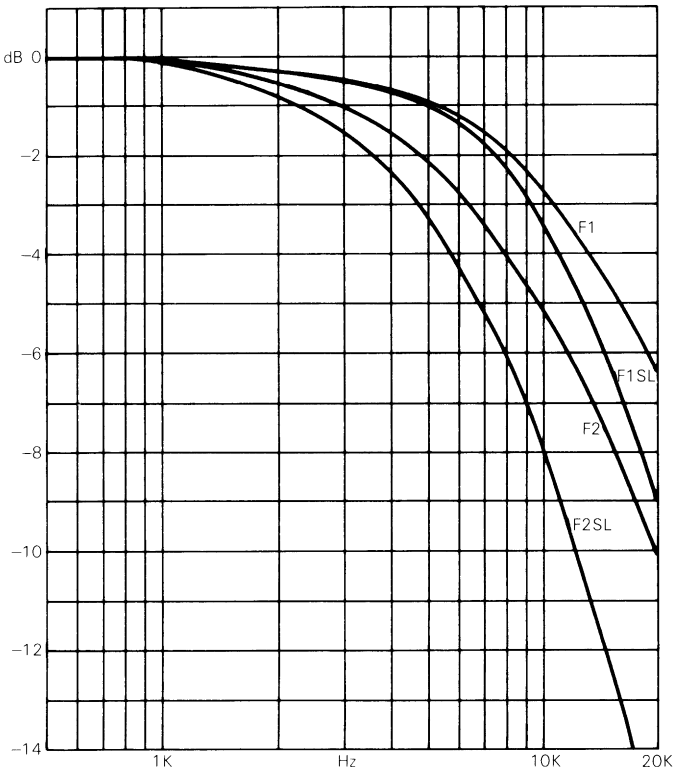

Fig. 10
**Note:** When neither filter is selected Slope is automatically selected but this is not indicated by the slope led, (see Switching page 4). This rapid tail off in frequency response discriminates against frequencies above the audio band. When Filter 1 or Filter 2 is selected the upper cut off frequency is lowered (see fig 10). The rate of attenuation will be 6dB/octave.